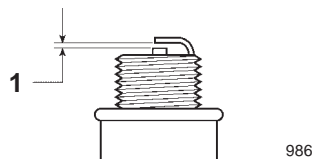

Figure 23
- Set the gap on the new plug to 0.020 in. (0.50 mm) (Fig. 23).